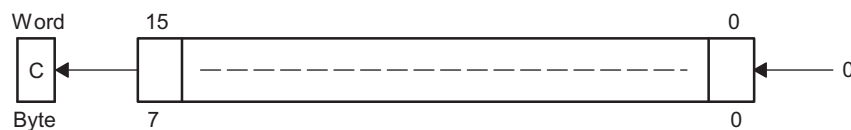

Figure 4-38. Destination Operand—Arithmetic Shift Left
Description The destination operand is shifted left one position as shown in Figure 4-38. The MSB is shifted into the carry bit (C) and the LSB is filled with 0. The RLA instruction acts as a signed multiplication by 2.